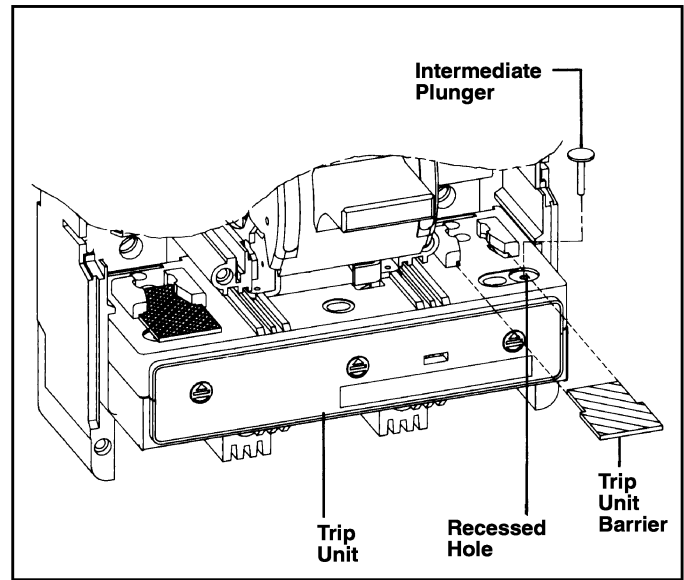

Fig. 2-2 Trip Unit Barrier Removal
- 2-5. For high instantaneous trip-type (catalog suffix K designation) molded case switches, find recessed hole in either of the trip unit outer poles (Fig. 2-2). Push intermediate plunger supplied with UVR in one hole to trip the molded case switch. Remove plunger to prevent it falling out of recessed hole in trip unit and into molded case switch mechanism.
- a. Remove barrier from trip unit accessory mounting slots in pole being used for accessory (Fig. 2-2).
- b. Position intermediate plunger in trip unit (Fig. 2-2).